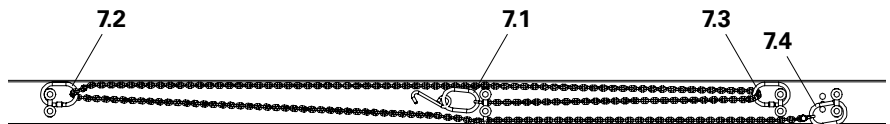

Fig. A3.12
- Chain (7.9) is tensioned. (Fig. A3.12)